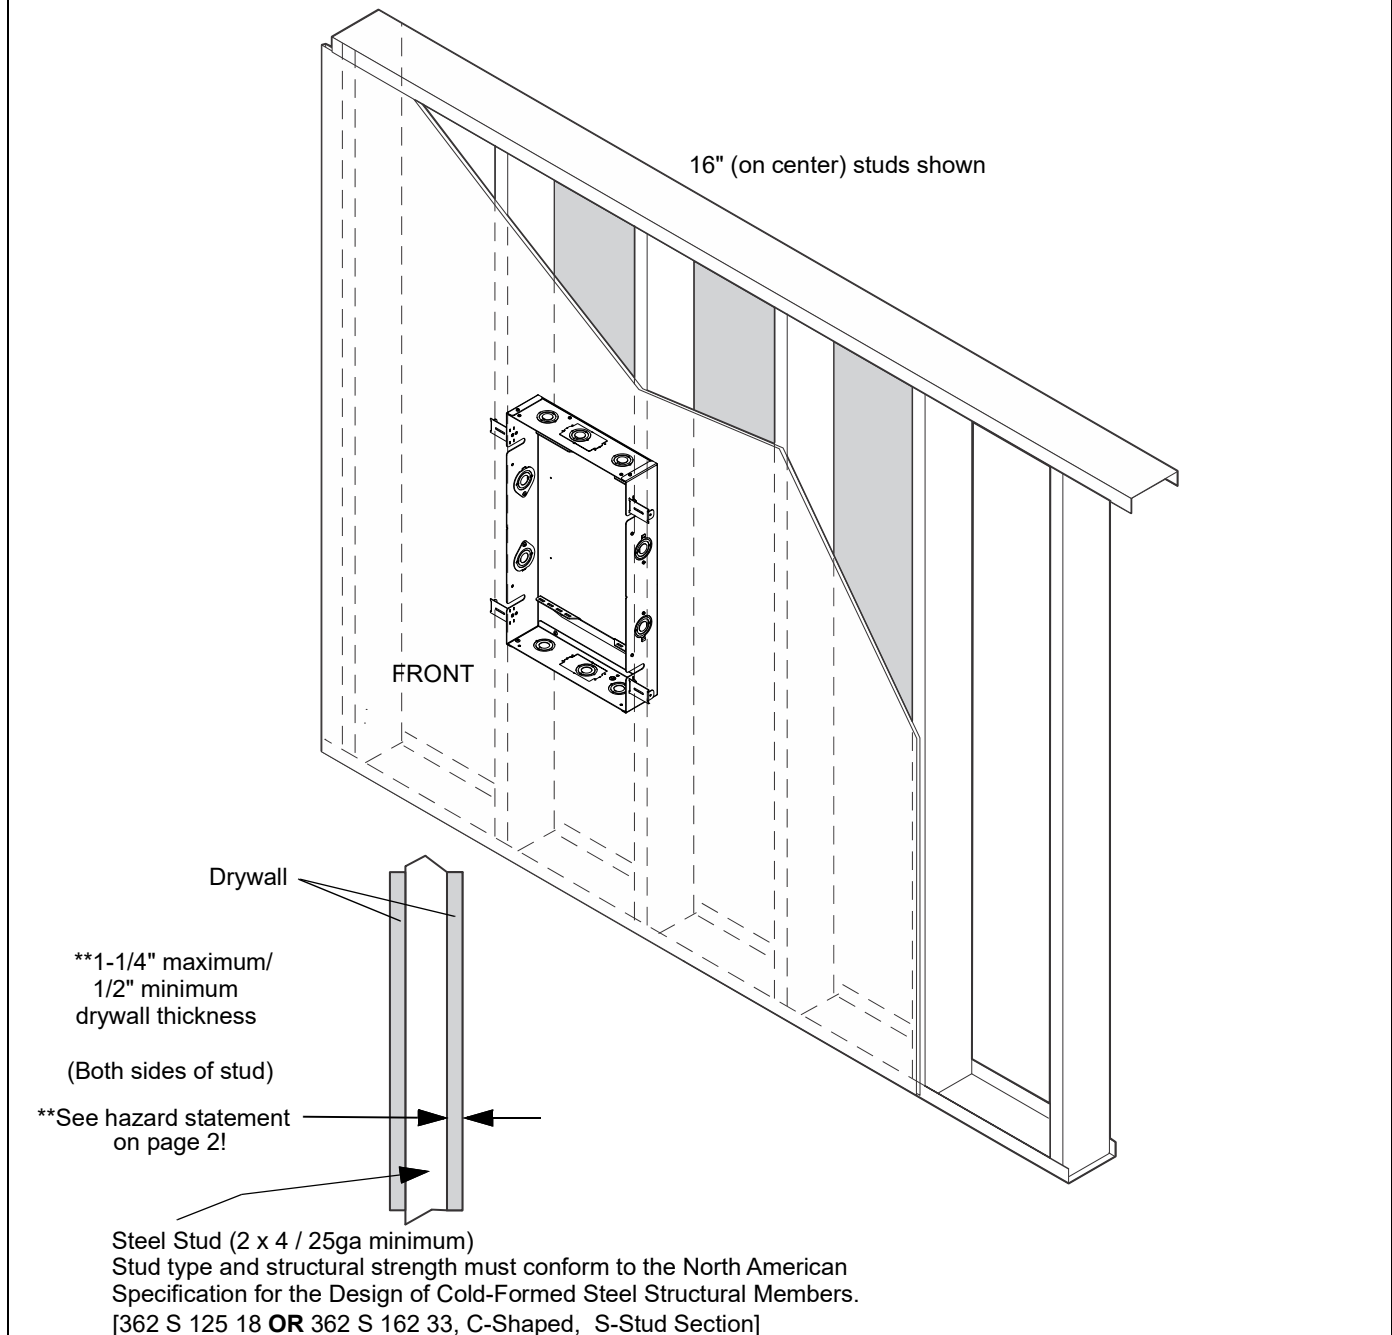

Figure 1
NOTE: In-wall boxes (A) may be installed to three consecutive 16" studs or split up with a stud bay in between the boxes. Displays with a mounting pattern between 200mm-700mm may be mounted with no gap and displays with a mounting pattern between 500mm-1100mm may be mounted with stud bay gap. (See Figure 1)